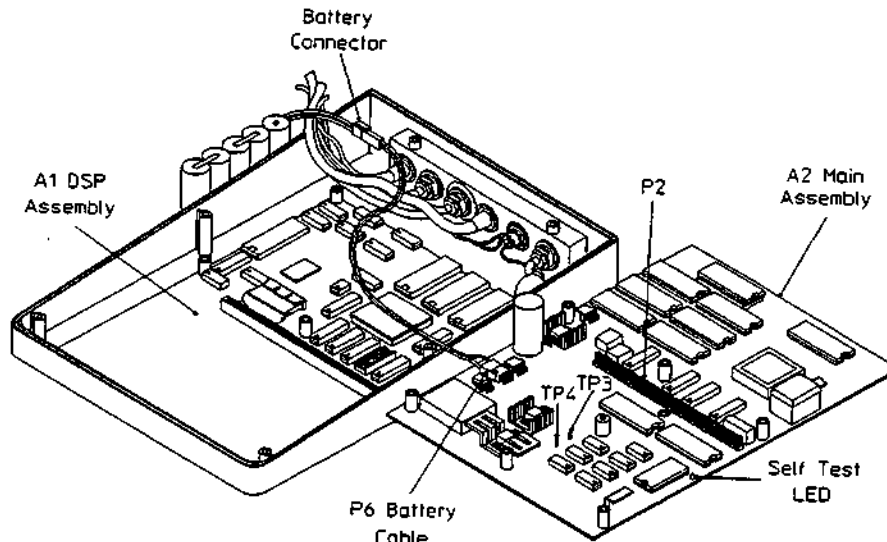

Figure 11-1.
5. Connect the battery cable (P6) to the A2 Main assembly as shown in figure 11-1. Short TP4 "PWRUP" to TP3 "GND" to turn on the A2 Main assembly (or short pins 10 and 7 of U28). Watch the self test LED for 20 seconds. It may flash once at first and then blink. Count the blinks to identify the failure.